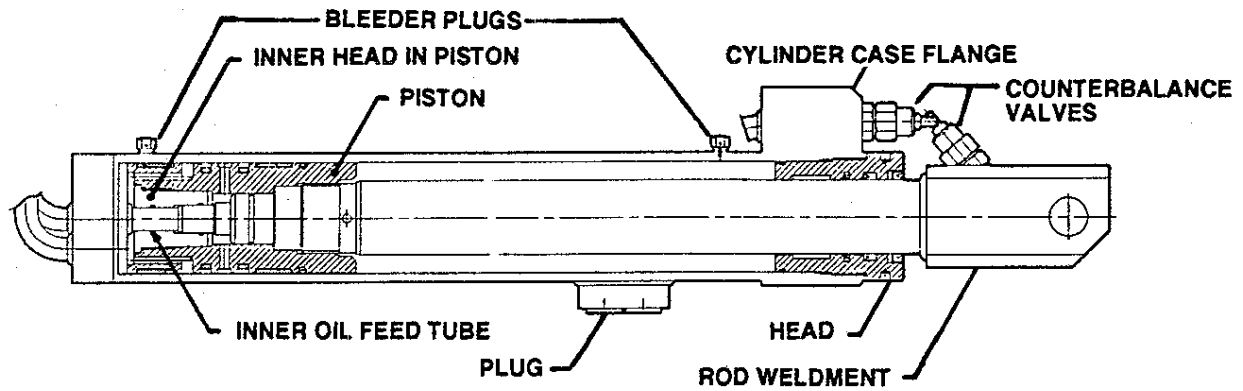

Figure G1-6. MAJOR COMPONENTS
1. Prepare the cylinder for disassembly by opening the bleeder screws to relieve pressure on extend and retract sides of hydraulic cylinder (if not already done during removal of cylinder from crane). Remove the counterbalance valve in cylinder case. Remove bleeder screw and drain oil from cylinder case. Remove one of the four plugs in the case in order to drain the oil, if desired. See Figure G1-6.
2. Remove the rod from the cylinder case by securing the cylinder case flange in a vise, and unscrew the head using a chain wrench or a spanner wrench. See Figure G1-6.
3. Remove the piston from the rod by securing the square end of the rod in a vise. With a spanner wrench, unscrew the inner head from the piston, then unscrew the piston from the rod while keeping the rod straight and supported in the center. See Figure G1-6.
6. With cylinder fully retracted, open bleed screw near the flange end of the cylinder. Apply extend pressure until the cylinder is fully extended. Close the bleed plug. See Figure G1-6.